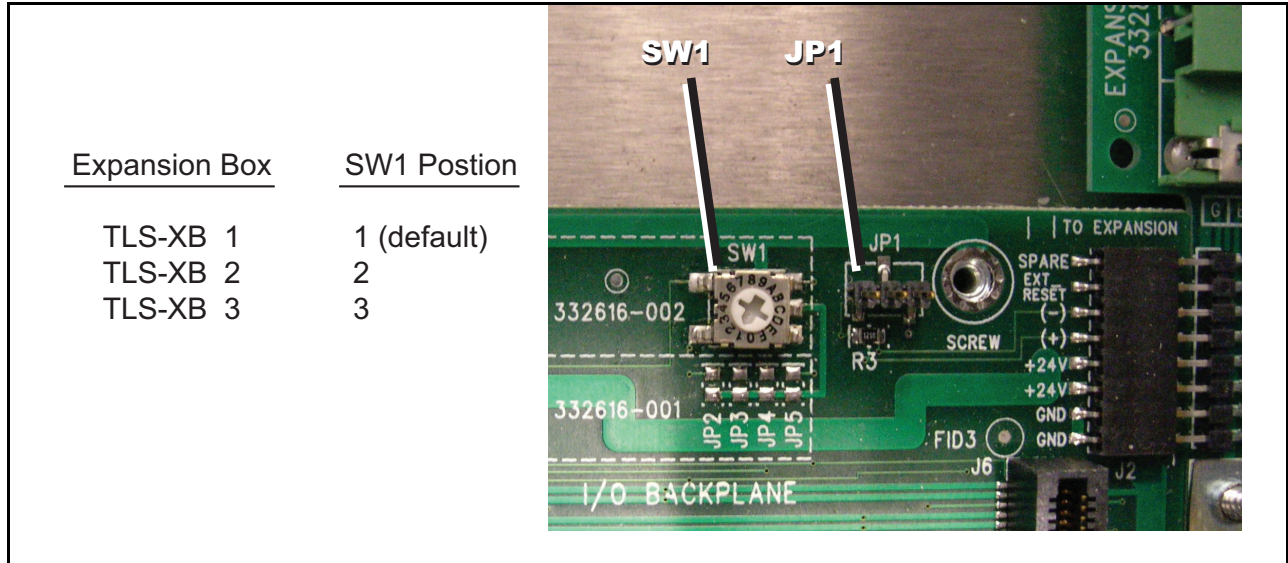

Figure 12. TLS-XB Expansion Box Backplane Switch
When more than one TLS-XB Expansion Box is connected to the TLS-450PLUS, the backplane switch in each TLS-XB must be set as shown in Figure 12. Leave TLS-XB switch SW1 in the default position (1) when connected to a TLS4. Note: only one TLS-XB can be connected to a TLS4.